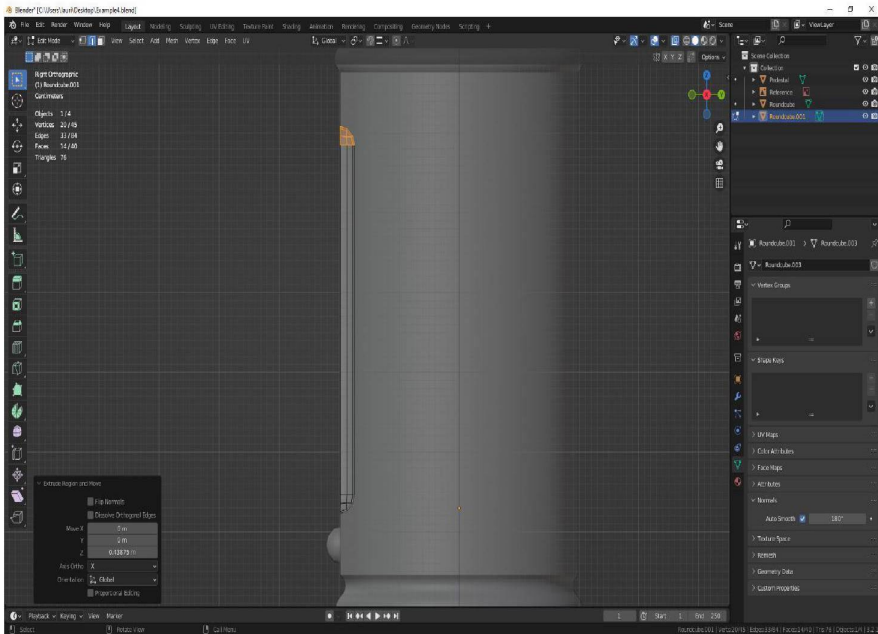

Figure 4.31: Top half of duplicate hemisphere extruded upward, to form fluting
14. With the hemisphere inverted, let's enter Face select mode, clear our selection, and then **Box Select (B)** the entire top half of the inverted hemisphere. Zoom out far enough to see the whole core cylinder of the pedestal, and press **E** to extrude. It may be necessary to press **Z** two or three times in a row to constrain movement in the z axis – indicated by a blue vertical line – and move the top of the fluting up, leaving enough space for the planned top row of hemispheres above, as shown in *Figure 4.31*: